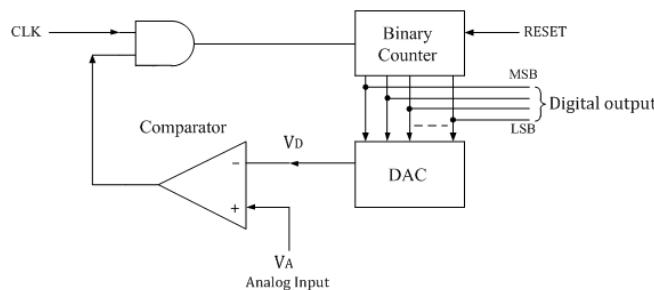

Fig. 7.7
- The binary word representing this count is used as the input of a D/A converter whose output is staircase type as shown in Fig. 7.7.